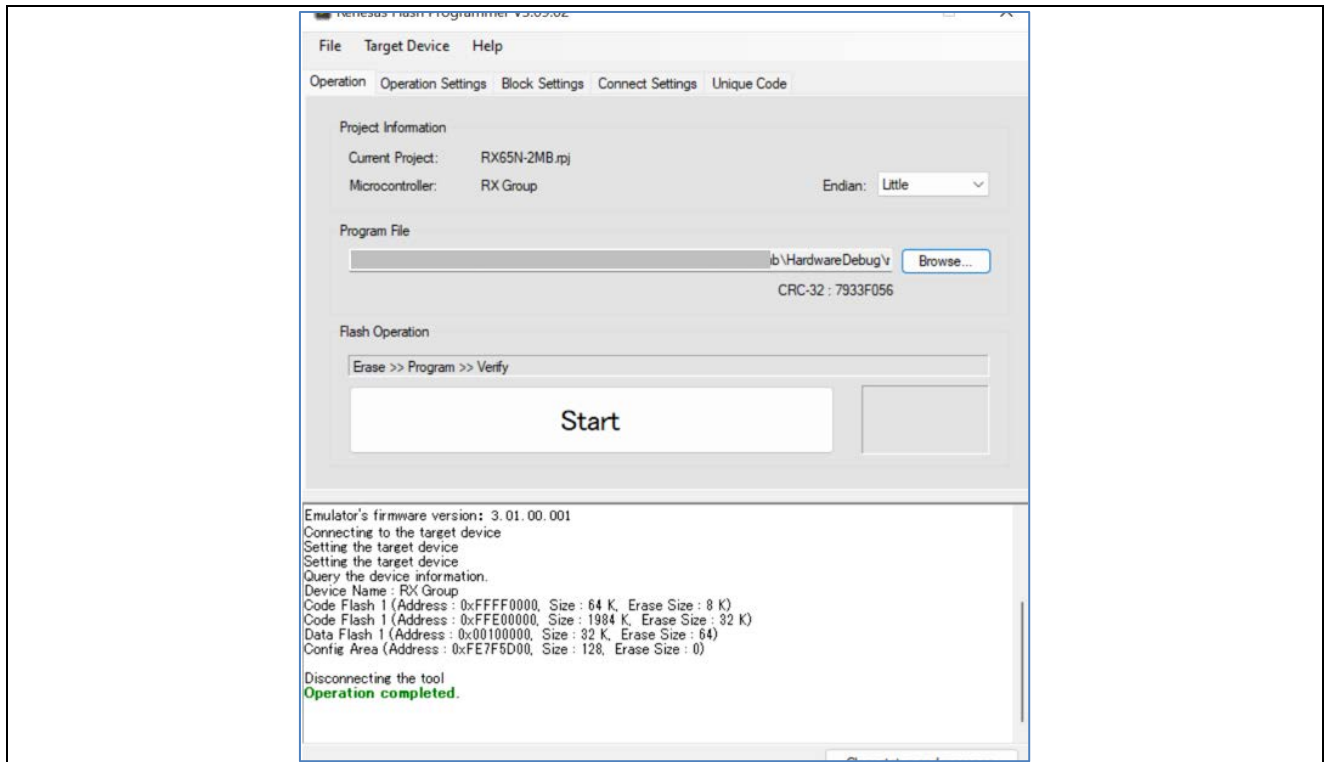

Figure 4. Main Window of Renesas Flash Programmer After Creating a New Project
7. Verify that the message **Operation Completed** is printed in the main window. Under Program File, click **Browse** to choose the program file that will be flashed onto the board (Figure 4). Using the file explorer window, navigate to the example project's **Hex File** (located in **r21qs0009euxxxx-ryz024a-rsk-rx65n-2mb.zip > ryz024a_quickstart_rx65n_2mb/ ryz024a_quickstart_rx65n_2mb.hex**) and click **Open**.